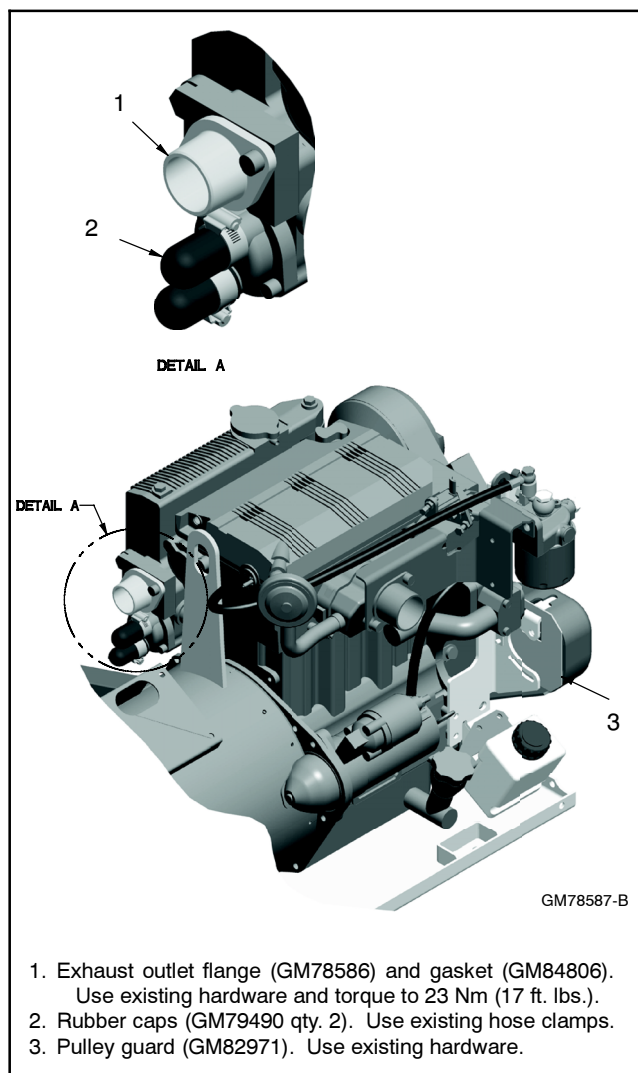

Figure 4 Assembly Drawing
- 2.11 Install the new exhaust flange (GM78586) and gasket (GM84806) reusing the existing hardware torqued to 23 Nm (17 ft. lbs.). See Figure 4, item 1. The customer must supply flexible stainless exhaust piping and fiberglass tape to insulate exhaust heat from the generator set.
- 2.13 Install the two rubber caps (GM79490) using existing hose clamps. See Figure 4, item 2.
- 2.14 Install the pulley guard (GM82971) using existing hardware. See Figure 4, item 3.